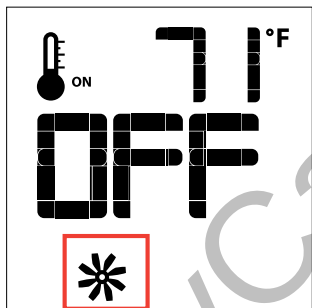
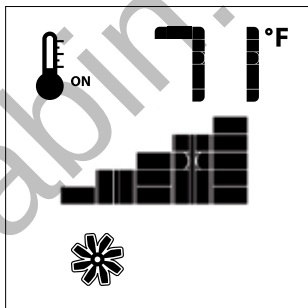

Figure 13
Figure 14
If the appliance is equipped with a hot air circulating fan, the speed of the fan can be controlled by the Proflame system. The fan speed can be adjusted through six (6) speeds. To activate this function use the Mode Key (fig.1) to index to the fan control icon (fig. 13). Use the Up/Down Arrow Keys (fig.1) to turn on, off or adjust the fan speed (fig. 14). A single "beep" will confirm reception of the command.